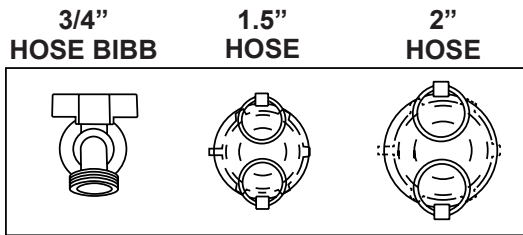

Fig. 5
The manifold assembly contains a 1.5" HOSE connection, a 2" HOSE connection and a standard 3/4" garden HOSE BIBB (see Fig. 5).
2. Connect a hose to the appropriate manifold connection (1.5", 2" or 3/4" garden hose)(Fig. 5). If using a 3/4" garden hose, rotate the HOSE BIBB handle counter-clockwise to ON (Fig. 3).